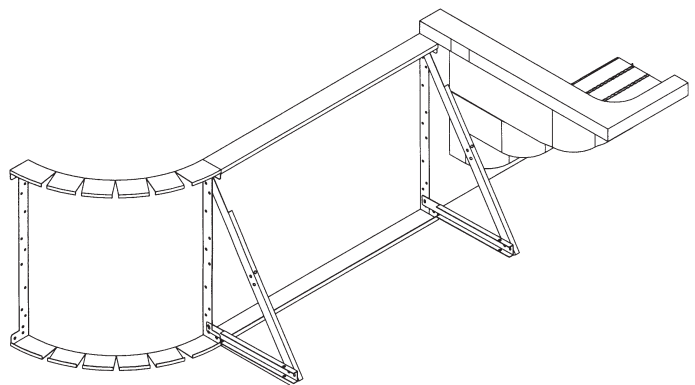
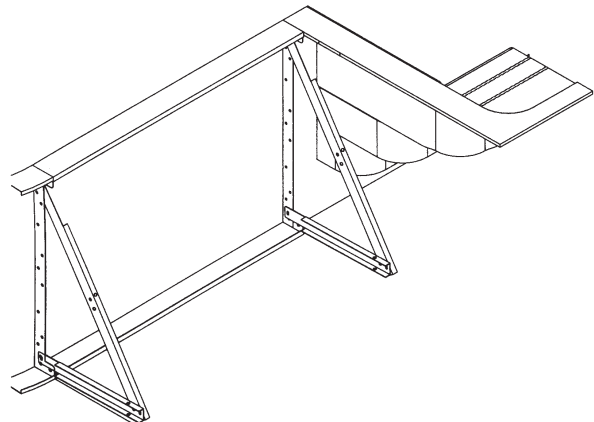

FIGURE 3. - Wall/Step Assembly - Standard Coping Application
FIGURE 4. - Wall/Step Assembly - Cantilever Application
5. Lift the assembled unit and rotate it onto the leveling legs while moving it into position between intended adjacent pool wall panels. (Figure 2a) and (Figure 3)
6. Plumb the face of the unit while positioning its face flush with the face (do not align with the gasket) of the adjacent pool wall panels. In addition, the top of the unit must be flush with the top of the panel Fig. 4 (Cantilever) and consideration given to coping application (Fig. 3). Level step, by using adjustable foot pads.